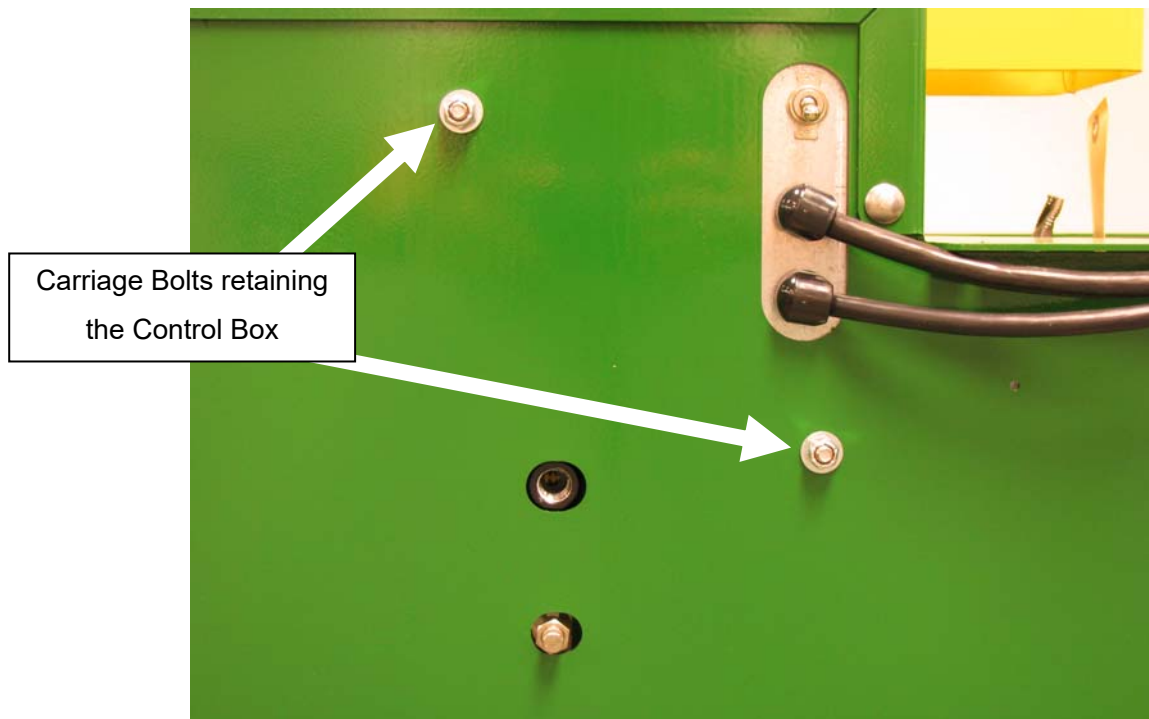

Fig 28
3. Remove the two carriage bolts that hold the Control Box to the machine and pull the box partially out the rear door. **See Fig 28.**